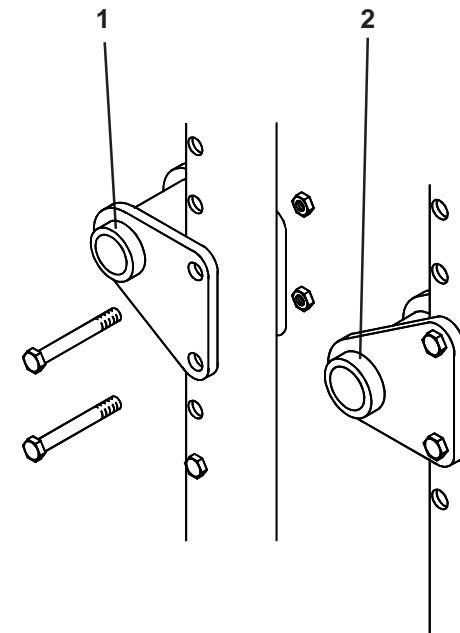

Fig. 29
To adjust the height of the rear of the seat (Fig. 29), position the rear axle bracket (1) in the low position (2). When the bracket is in the low position the seat is in its highest position. To change the seat height to the low setting remove the two retaining bolts using a 10mm A/F spanner, and turn the bracket upside down. Replace the bolts and retaining nuts and tighten them to 8-10Nm torque setting.